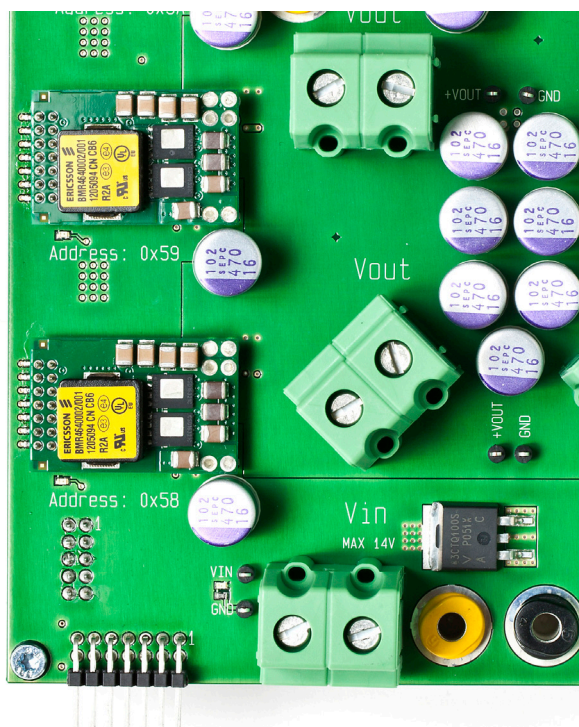

Figure 21. POL parallel test board setup for this example - two BMR463 modules at addresses 0x58 and 0x59.
Step 4. If you are going through this walkthrough with a POL parallel test board, you can load the project onto the devices. Setup the board as shown in Figure 21 below, then power it and connect the USB-PMBus Adapter to the board.